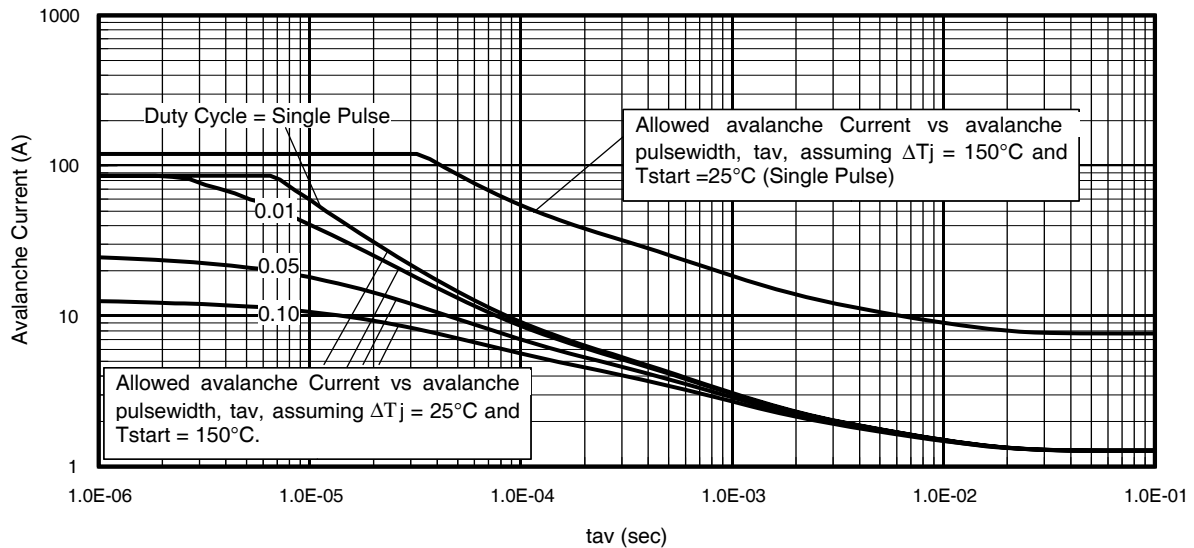

Fig 14. Typical Avalanche Current vs. Pulsewidth
| $I_{AR}$                     | Avalanche Current ②             | See Fig. 14, 15, 22a, 22b, | A  |
Notes on Repetitive Avalanche Curves, Figures 14, 15:
7.  $\Delta T$  = Allowable rise in junction temperature, not to exceed  $T_{jmax}$  (assumed as  $25^{\circ}\text{C}$  in Figure 14, 15).